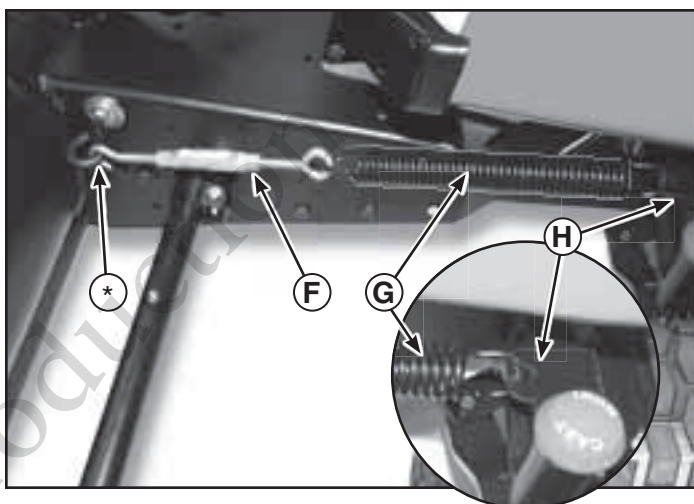

Figure 16
7. On the left side of tractor attach turnbuckle (F, Figure 16), spring (G) and axle clamp (H) onto snowthrower assembly eyebolt (*).